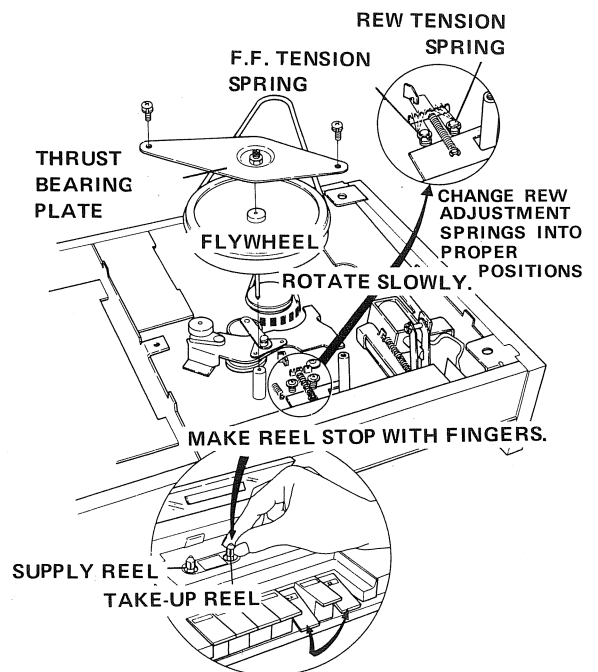

Fig. 16
1. Remove cabinet. Remove thrust bearing plate (Fig. 16).
5. While holding the reel shaft, change the position of the rewind tension spring (see insert in Fig. 16) so that idler pulley clutch rotates slowly due to slippage.
8. While holding the reel shaft, change the position of the fast forward tension spring (see insert in Fig. 16) so that idler pulley clutch rotates slowly due to slippage.